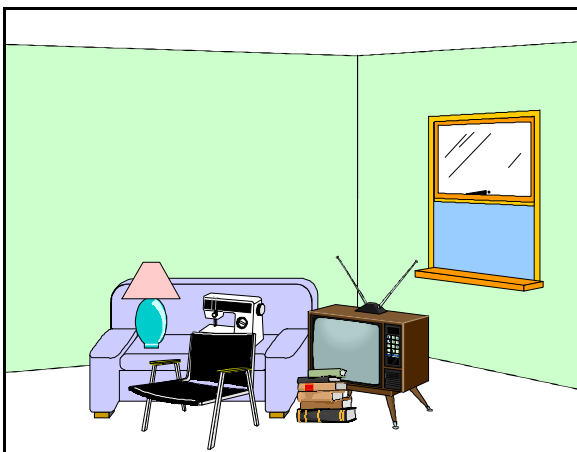

Fig 11.2 Furniture Gathered into the Centre of a Room
- group all other furniture close by; small articles such as lamps, curtains, pictures and clothes can be placed on the bed. (See Fig 11.2)